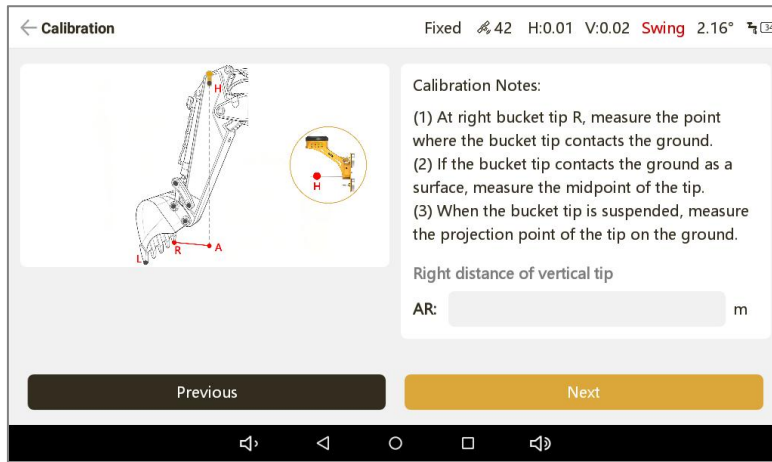

Figure 3-27
- (8) Measure and enter the distance **AR** from the plumb bob to the right bucket tip, then tap 'Next' at the bottom, as shown in Figure 3-27.